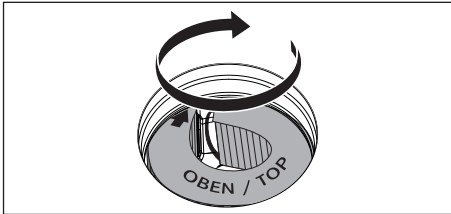

Fig. 8.10 Placing the activated charcoal filter in the end position
- ▶ Inside the inlet opening push the filter replacement cover until it comes to a stop in the filter housing opening (to insert the filter replacement cover see Fig. 8.10).